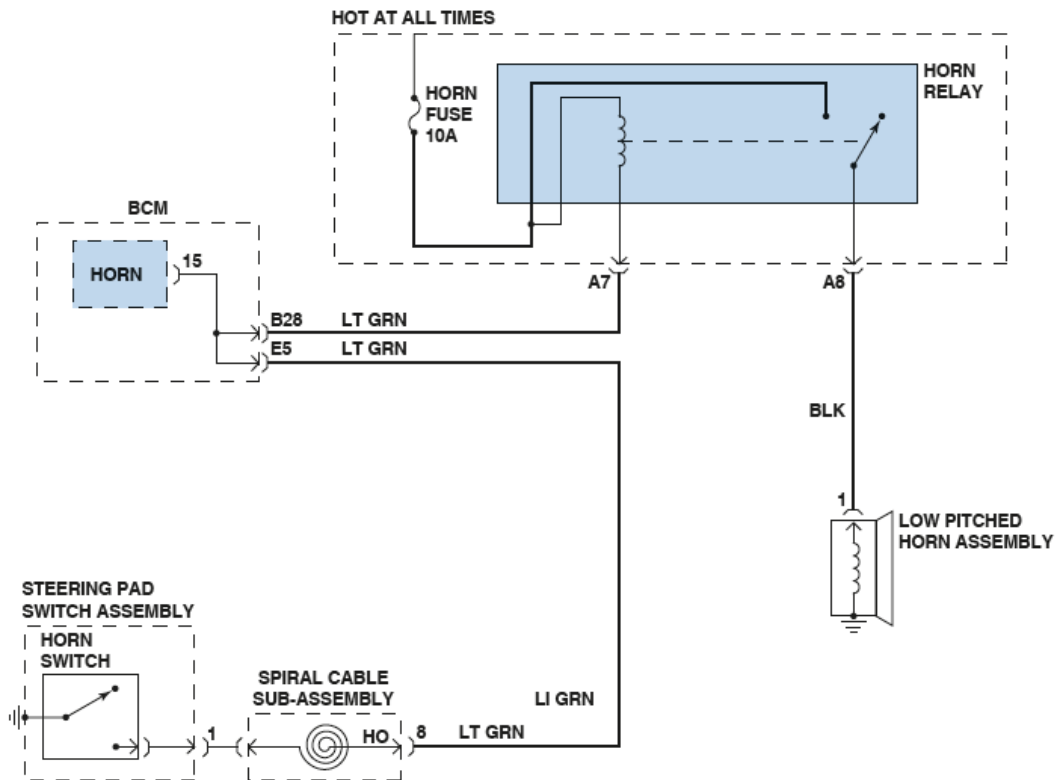

Figure 19. Typical horn circuit.
**Horn Circuits.** On most recent model vehicles, the horn button is an input to the body control module (BCM) or electronic control unit (ECU). The BCM controls the operation of the horn relay. The horn relay may also be controlled by the BCM, which “beeps” the horn when the vehicle is locked or unlocked, using the key fob remote. Figure 19.